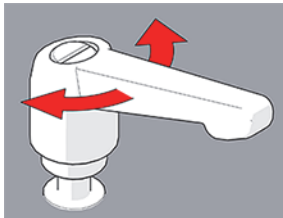

Figure 3-46 Rotate handle
2. Continue to pull the lever, while rotating it in the appropriate direction (see Figure 3-46 on page 66).